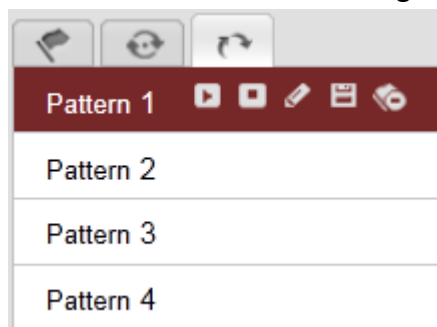

Figure 4-9 Patterns Settings Interface
2. Select a pattern number from the list as shown in Figure 4-9.